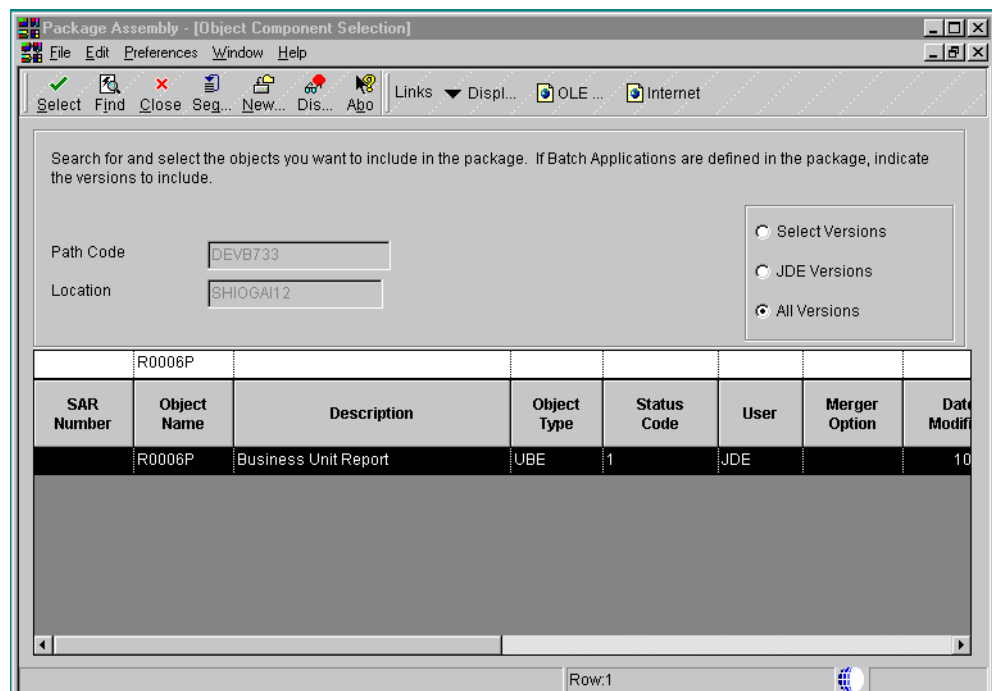

Figure 150. Object Component form
1. Display the Object Component [Section] form (Figure 150) by doing one of the following tasks: